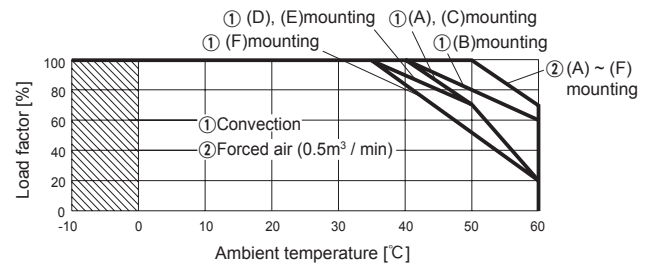
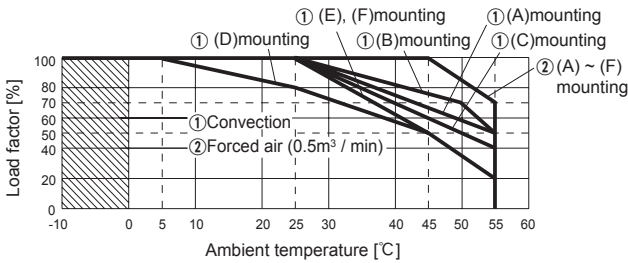

Fig.3.1 Ambient temperature derating curve
Fig.3.5 Ambient temperature derating curve
- ①Continuous overload
- ②The input voltage is continuous less than AC85V or exceed AC264V.
- ③More than rated output voltage is applied to output terminal of power supply.
- ④When the current and the temperature which deviates from the derating characteristic shown in Fig.3.1 to Fig.3.5.